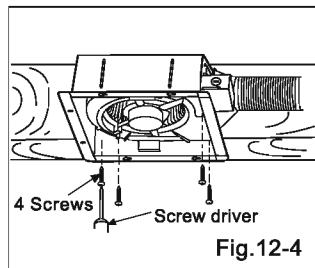
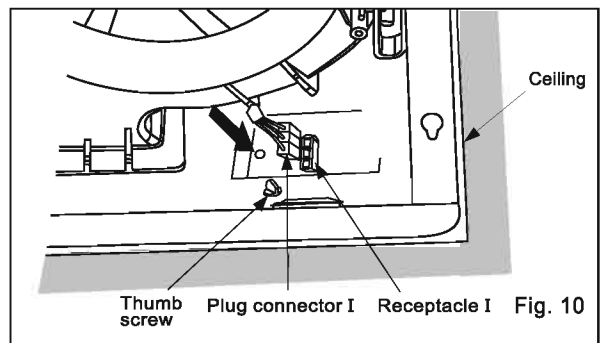

Fig.12-4
Fig. 10
6. Secure the fan body to adaptor by using thumb screw and plug connector to receptacle. (Fig. 10)
5. Secure the adaptor to fan body by using thumb screw. (Fig. 10)
8. Secure the blower. (Fig. 12-4) and plug connector to receptacle. (Fig. 10)